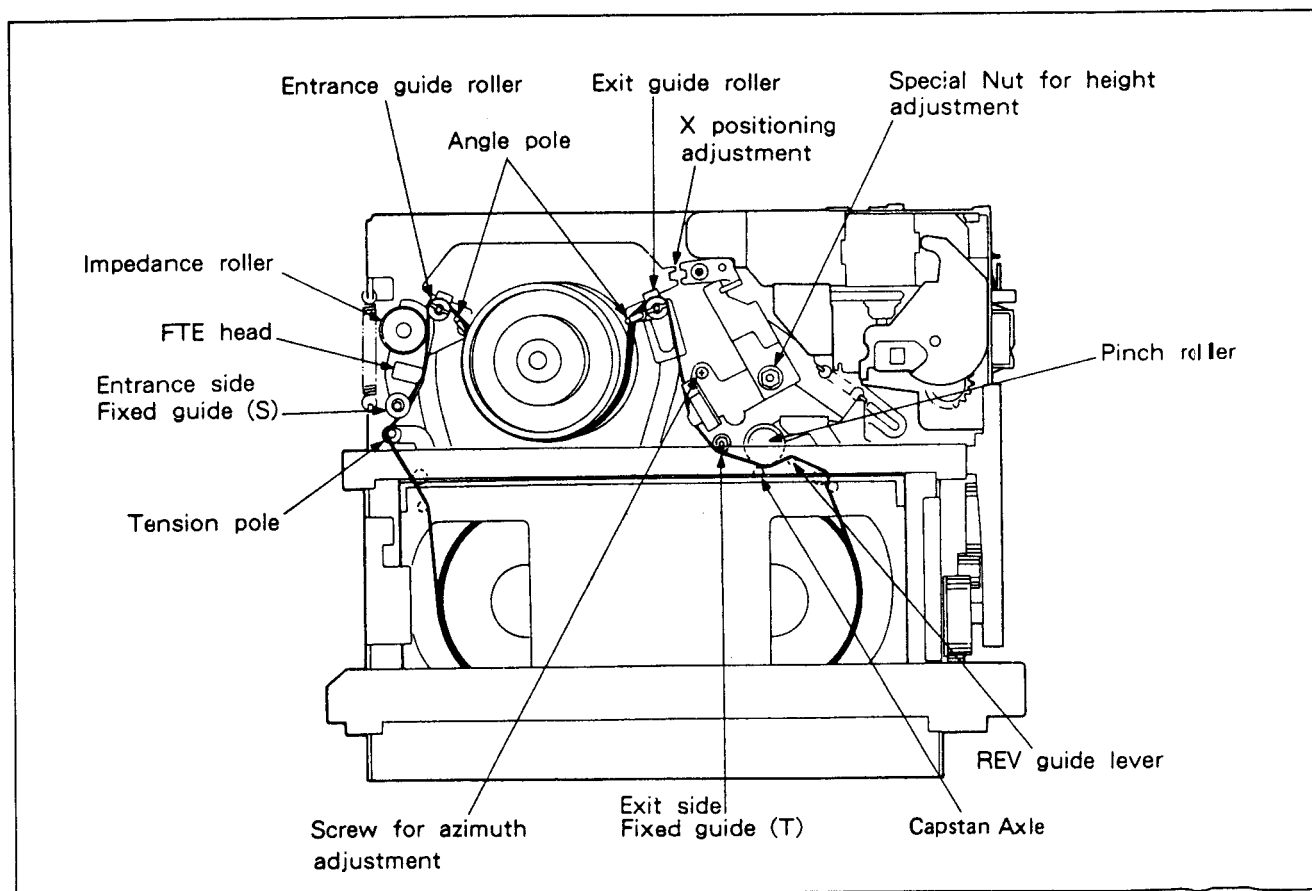

Fig. 6-4-1. Preparation for Adjustment
The tape path mechanism is precisely adjusted at the factory. Normally no readjustment is required, but checking and/or adjustment is necessary when parts of the tape path mechanism among those shown in the figure below (See Fig. 6-4-1.) have been removed or replaced after a long period of use. This operation consists of adjusting the various guides so that the tape drawn out from the supply reel runs smoothly along the DRUM (CYLINDER) lead surface. A way of grasping the tape path condition by electronic means is monitoring the video head output envelope waveform with an oscilloscope. However, the fact that visual observation is essential in order to know whether the tape is running through the various guides in a smooth and natural way should be kept in mind when checking and adjusting.
- (1) Clean the tape transport surfaces (See Fig. 6-4-1.).
- (2) Connect the oscilloscope. Connect the channel 1 probe to the envelope waveform test point, and the channel 2 probe to the SW30 (RF SW P) test point. During adjustment, apply a trigger to the low side of the SW30 (RF SW P) in order to monitor the waveform output from channel 1 of the video head.